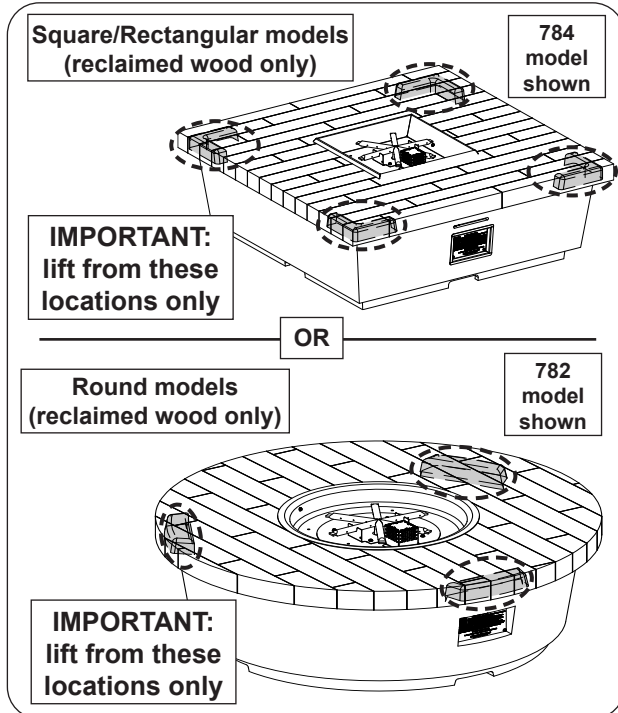

Fig. 27-1 Handling unit detail (if applicable)
1. **Carefully** place the base in an appropriate location (see Fig. 27-1, and refer back to the LOCATION section if needed).
Important: For reclaimed wood models, only lift the unit from the lift points (see Fig. 27-1). **DO NOT lift from the tabletop.**